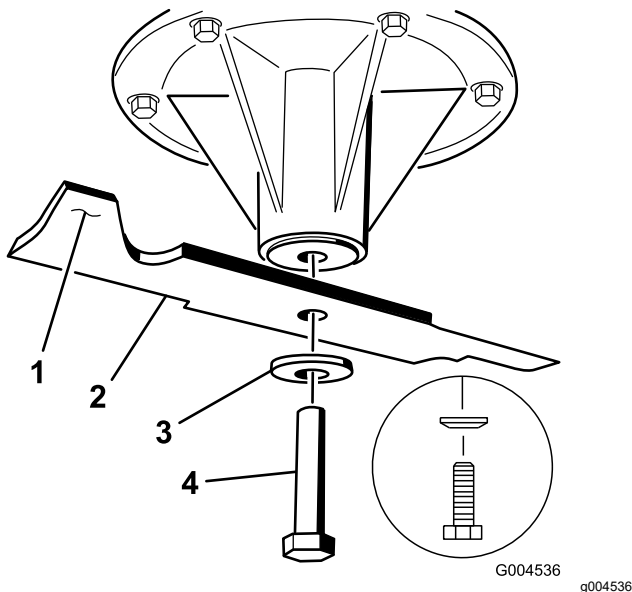

Figure 81
2. Remove the blade bolt, curved washer, and blade from the spindle shaft (Figure 81).
1. Install the blade onto the spindle shaft (Figure 81).
2. Install the curved washer and blade bolt (Figure 81).